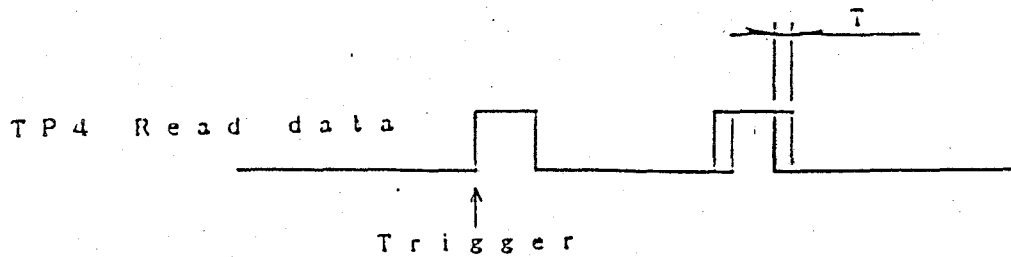

Fig. 5-8
- c) Adjust VRI to reduce to a minimum the time lags for the top and bottom heads shown in Figure 5-8.